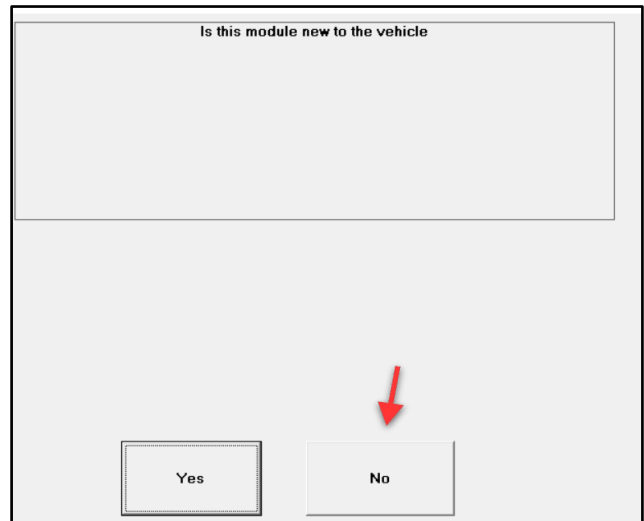

Figure 7
- 12. In the next two pop-up windows, click “No” (refer to Figure 7).